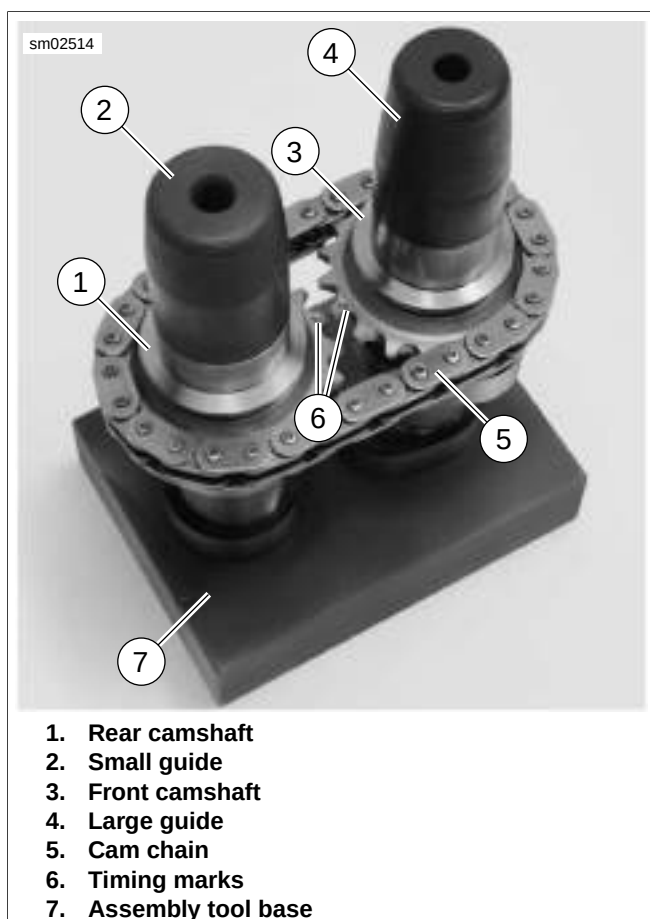

Figure 3-110. Camshaft Assembly Tool
3. See Figure 3-110. Obtain CAMSHAFT ASSEMBLY TOOL (Part No. HD-47956). Place crankcase side of